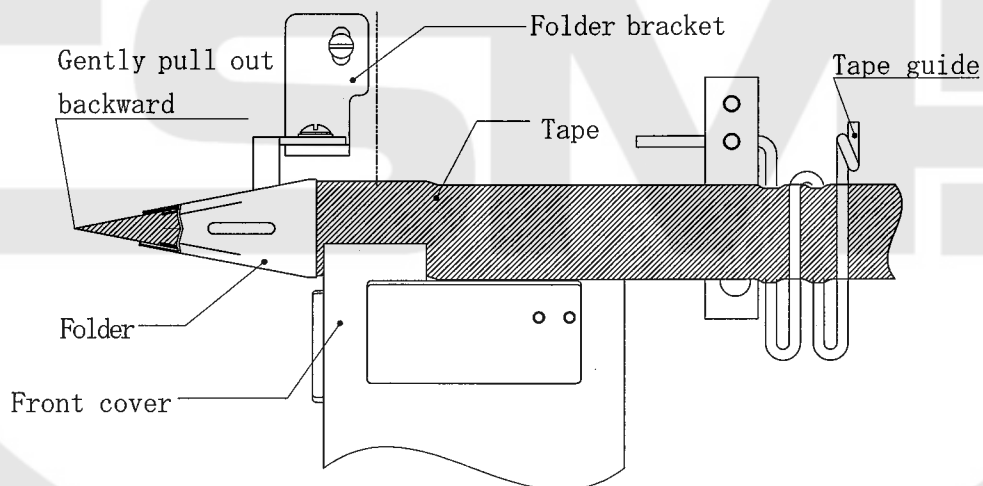

Fig. 1-2
- (1) Run the tape through folder after through the tape guide. (Fig. 1-2)
- (2) Gently pull out the end of tape backward. Then, insert it under the presser foot after folding it in four.